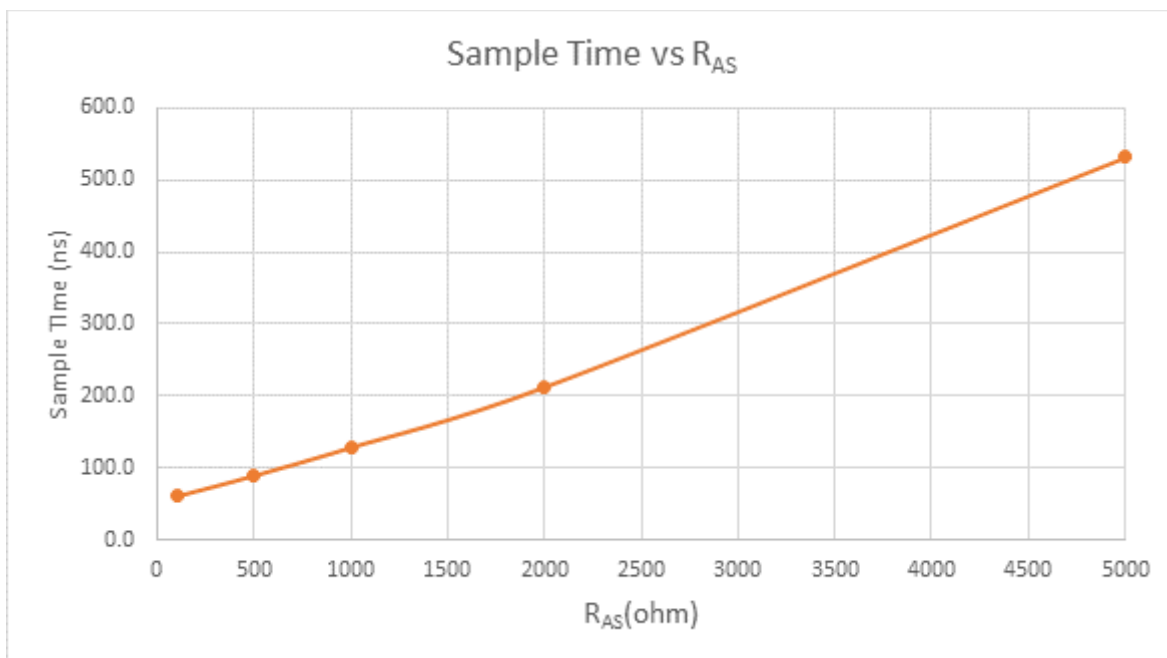

Figure 57. Sample time vs. R_{AS}
³ See Figure 57.
- ³ See Figure 57.